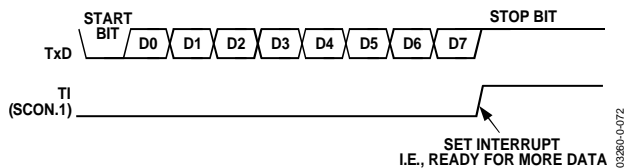

Figure 72. UART Serial Port Transmission, Mode 1
Transmission is initiated by writing to SBUF. The write to SBUF signal also loads a 1 (stop bit) into the 9th bit position of the transmit shift register. The data is output bit by bit until the stop bit appears on TxD and the transmit interrupt flag (TI) is automatically set, as shown in Figure 72.